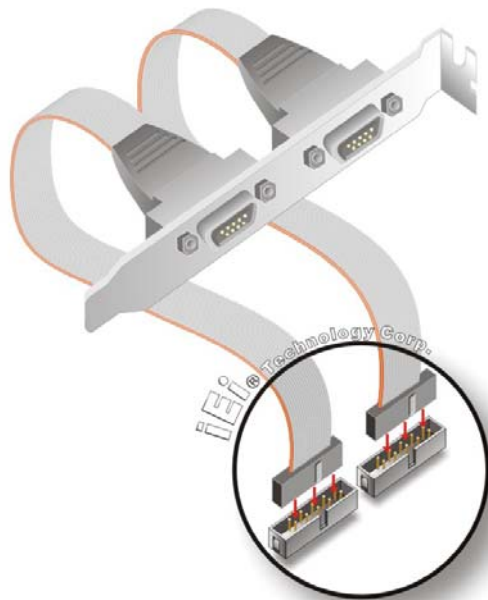

Figure 4-14: Dual RS-232 Cable Installation
Step 2: Insert the cable connectors. Insert one connector into each serial port box headers. See Figure 4-14. A key on the front of the cable connectors ensures the connector can only be installed in one direction.